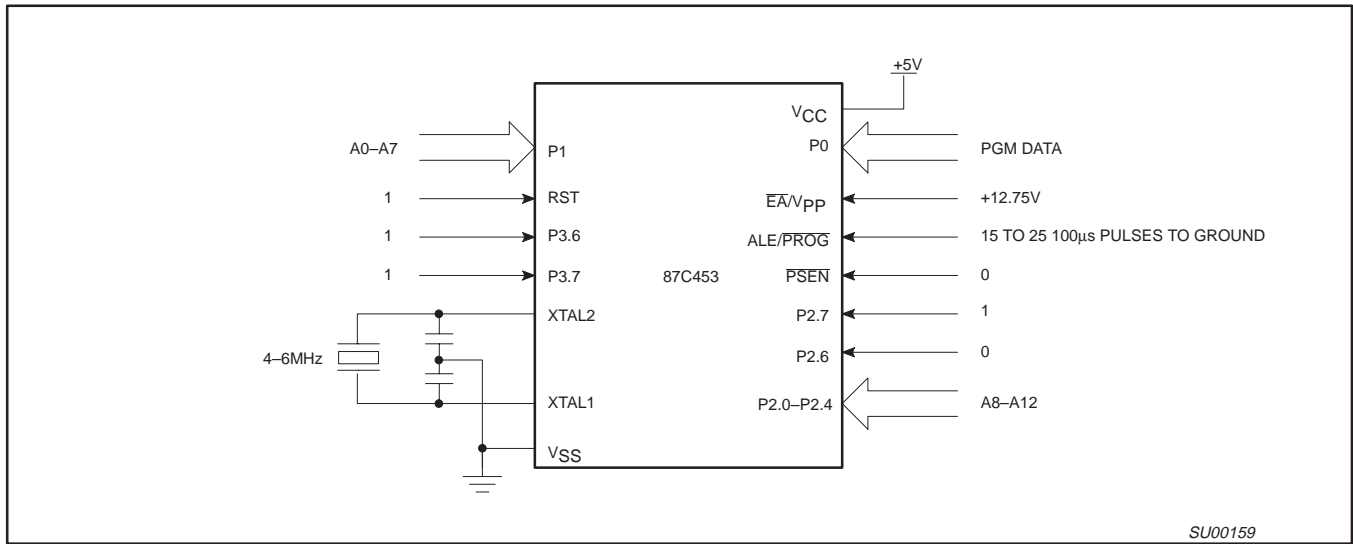
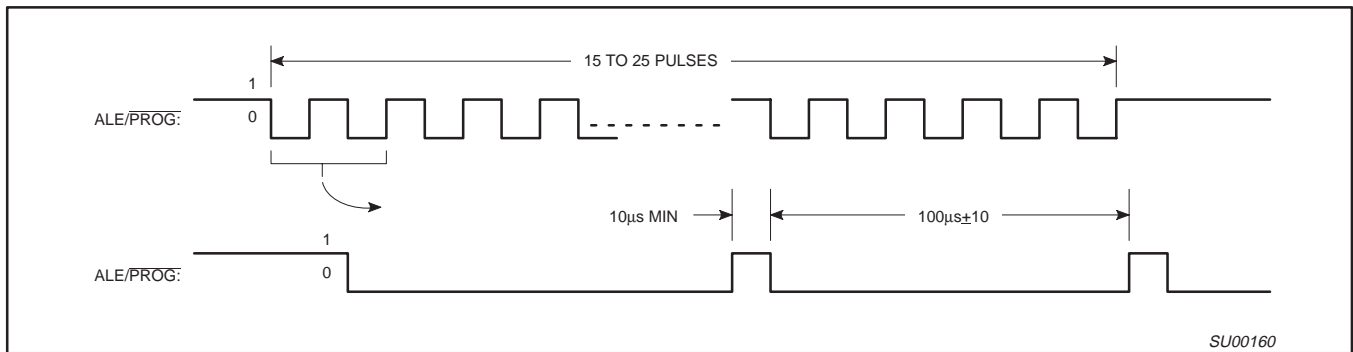
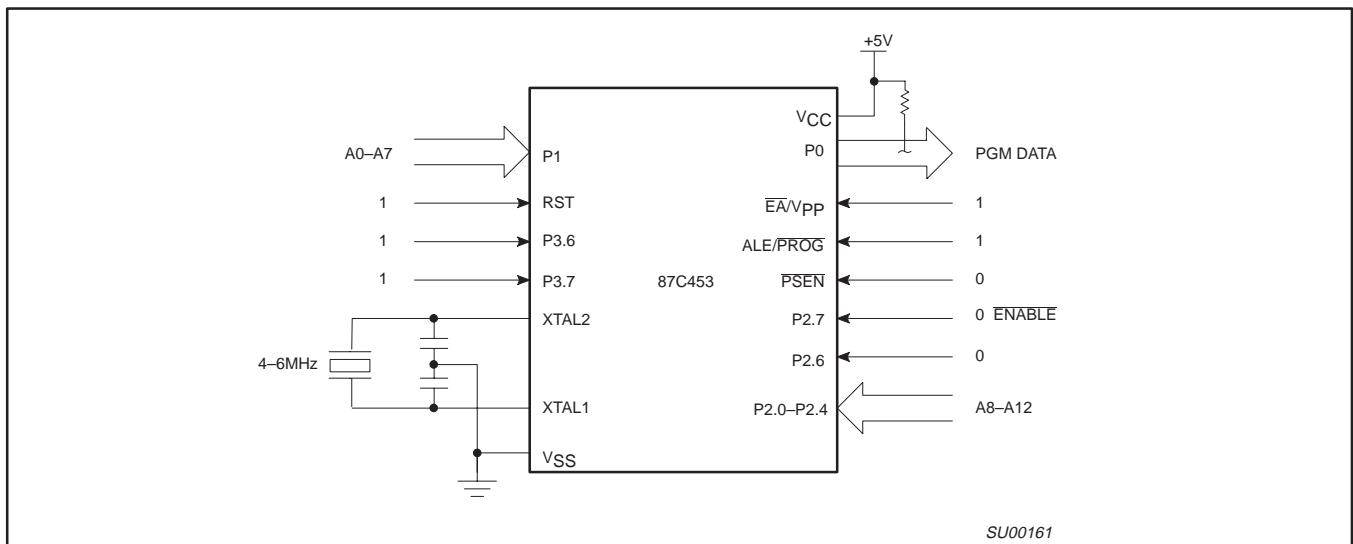

Figure 25. Programming Configuration
Figure 26. PROG Waveform
Figure 27. Program Verification
Table 5 shows the logic levels for reading the signature byte, and for programming the program memory, the encryption table, and the lock bits. The circuit configuration and waveforms for quick-pulse programming are shown in Figures 25 and 26. Figure 27 shows the circuit configuration for normal program memory verification.
The setup for microcontroller quick-pulse programming is shown in Figure 26. Note that the 87C453 is running with a 4 to 6MHz oscillator. The reason the oscillator needs to be running is that the device is executing internal address and program data transfers.
The address of the EPROM location to be programmed is applied to ports 1 and 2, as shown in Figure 25. The code byte to be programmed into that location is applied to port 0. RST, \overline{PSEN} and pins of ports 2 and 3 specified in Table 5 are held at the 'Program Code Data' levels indicated in Table 5. The ALE/PROG is pulsed low 15 to 25 times, as shown in Figure 26.
If lock bit 2 has not been programmed, the on-chip program memory can be read out for program verification. The address of the program memory locations to be read is applied to ports 1 and 2 as shown in Figure 27. The other pins are held at the 'Verify Code Data' levels indicated in Table 5. The contents of the address location will be emitted on port 0. External pull-ups are required on port 0 for this operation.
* FOR PROGRAMMING VERIFICATION SEE FIGURE 25.
FOR VERIFICATION CONDITIONS SEE FIGURE 27.